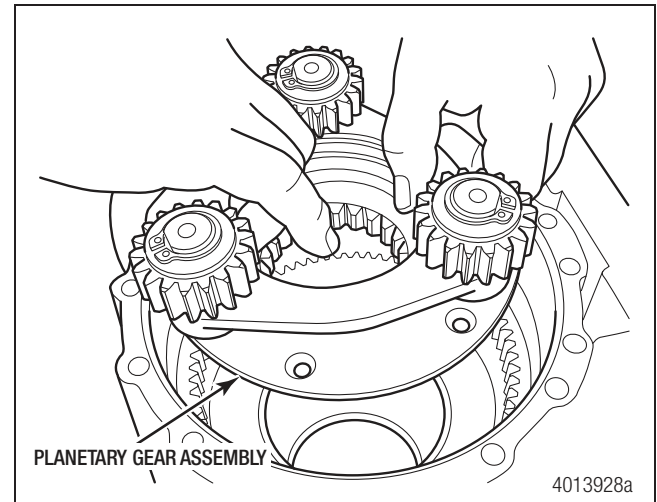

Figure 7.1
1. Place the planetary carrier assembly into the front transfer case housing and line up the planetary gears with the ring gear. Install the planetary assembly and use an appropriate tool to gently tap the assembly to seat it flat. Rotate the gear assembly around to ensure it moves smoothly. Figure 7.1.